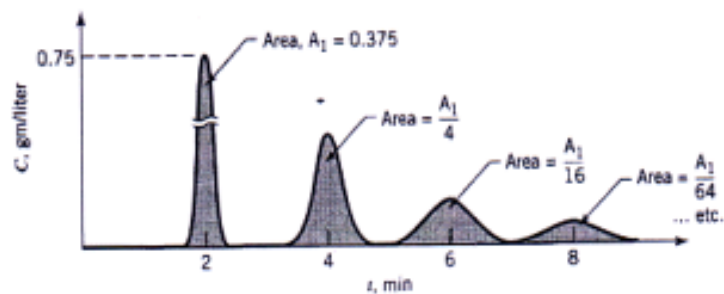

Figure 1
- Q10)** A large tank (860 liters) is used as a gas-liquid contactor. Gas bubbles up through the vessel and out the top, liquid flows in at one part and out the other at 5 liters. To get an idea of the flow pattern of liquid in this tank a pulse of tracer ($M = 150$ gm) is injected at the liquid inlet and measured at the outlet, as shown in Figure 1. [16]